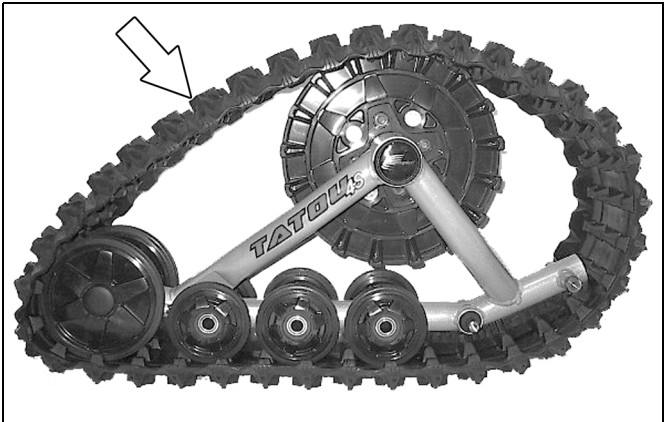

Figure 16
- Install the rubber track (refer to Figure 16).